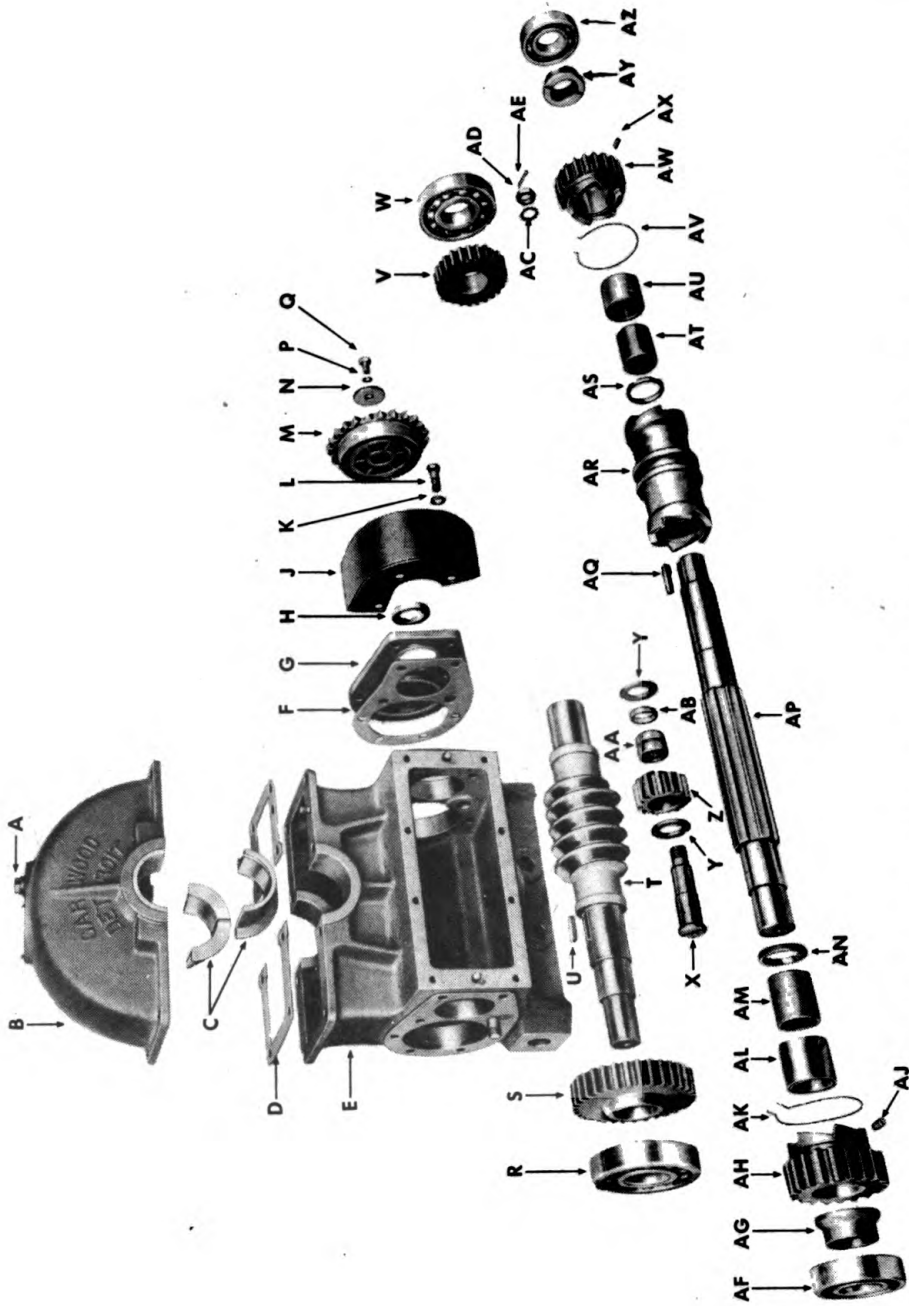

Figure 45 — Front Tandem Winch Gear Case — Disassembled
Legend for Figure 45
a. **Disassembly** (fig. 45). The gear case assemblies for the front and rear tandem winches are identical, except that the parts are in a reverse position, with the shifter cover and sliding clutch on opposite sides. The procedure in this paragraph applies to the front tandem winch gear case assembly, and the procedure can also be followed for the rear tandem winch gear case assembly.
(1) **REMOVE SPROCKET GEAR CASE COVER AND SPROCKET SHIELD** (fig. 45). Remove cap screw, lock washer, and retaining washer from end of input shaft. Pull sprocket from shaft and remove key. Remove seven cap screws and lock washers, one cotter pin, castellated nut, and lock washer which hold gear case cover and sprocket shield to case. Remove shield end cover and gasket. **NOTE:** *Two of the gear case cover bolts on rear tandem winch secure throttle control lever, quadrant, and mounting plate.*
(2) **REMOVE REVERSE IDLER GEAR** (fig. 45). Drive reverse idler pin (X) out through inside of gear case, and remove pin with bearing attached. Remove two thrust washers, spacer, and reverse idler gear from reverse idler pin. Press bearing from idler gear.
(3) **REMOVE INPUT SHAFT** (fig. 45). Drive input shaft away from sprocket end of case until bearing at opposite end of shaft is out of case; then pull bearing off shaft. Remove thrust collar from input shaft, remove lock wire from lock screw on clutch gear (right-hand), and remove lock screw. Swing end of shaft out of case and remove clutch gear. Press bushing and sleeve from clutch gear (right-hand). Remove lock wire from lock screw on remaining clutch gear (left-hand), and remove lock screw. Remove input shaft from gear case, and remove ball bearing from end of shaft.
(4) **REMOVE SLIDING CLUTCH** (fig. 45). Remove thrust collar, clutch gear (left-hand) clutch gear spacer, and sliding clutch from shaft. Press bushing and sleeve from clutch gear (left-hand).
(5) **REMOVE WORM** (fig. 45). Drive worm (T) toward sprocket end of case, and remove ball bearing. Pull gear (25 teeth) from shaft, and remove key from worm. Pull worm forward through hole in case until remaining gear (33 teeth) is against inside of case at sprocket end. Drive gear and ball bearing from end of the worm, remove worm from case, and lift key from worm.
(1) **INSTALL WORM** (fig. 45). Install key in gear (33 teeth) end of worm, and place worm in position in gear case. Press ball bearing and gear (33 teeth) onto end of worm, being sure ball bearing is positioned with part number side toward gear case. Install key on opposite end of worm, and press other gear (25 teeth) and bearing on worm, and into case.
(3) **INSTALL REVERSE IDLER GEAR** (fig. 45). Press bearing into idler gear. Install gear, spacer, and two thrust washers on reverse idler pin. Drive reverse idler pin into case.
(4) **INSTALL SPROCKET AND SPROCKET SHIELD** (fig. 45). Cement new gasket to gear case and cover. Position cover and sprocket shield on case, securing cover and shield to case with seven cap screws and lock washers and one lock washer, castellated nut, and cotter pin which also secures reverse idler pin in case. Install key in end of input shaft, and press sprocket into position on shaft. Install retaining washer, lock washer, and cap screw over sprocket and in end of input shaft.